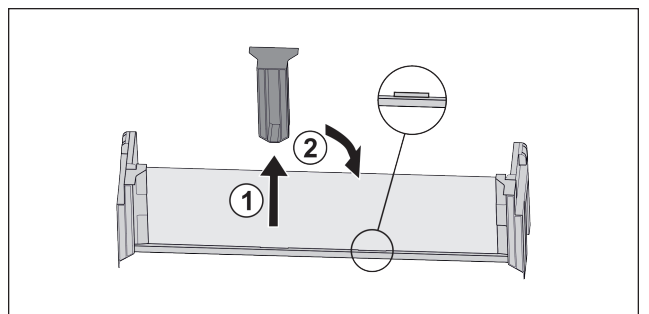

Fig. 92
- ▶ Pull off the middle holder Fig. 92 (1).
- ▶ Insert the middle holder in the second position Fig. 92 (2).